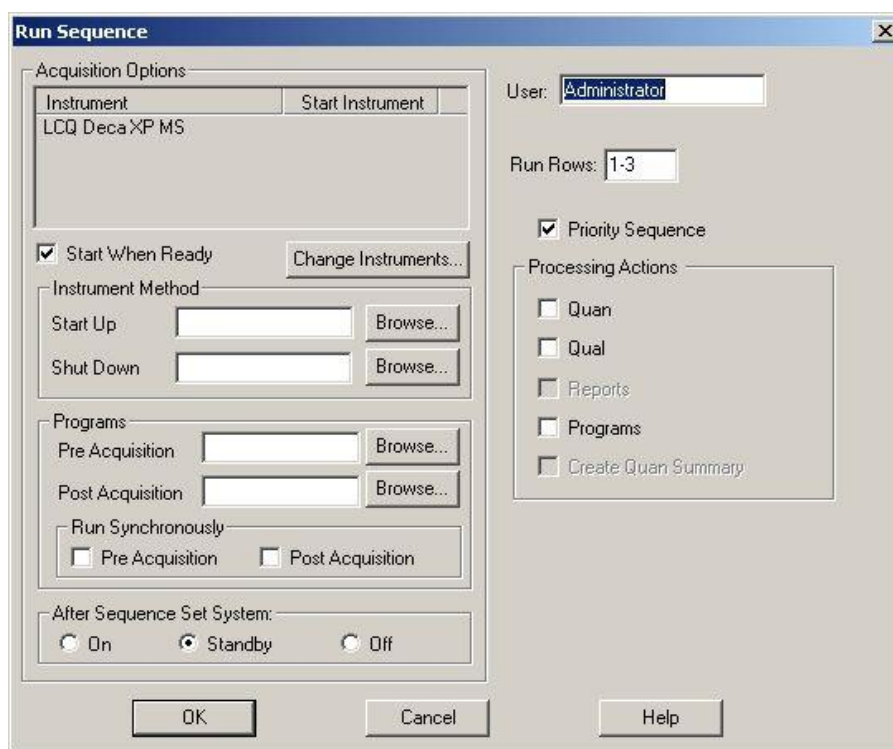

Figure 7.27 Starting the Sequence Run
8. Go to the Actions/Run Sequence menu to open the run sequence dialog window (see Figure 7.27 below).
11. “Change Instruments...” button (see Fig. 7.27); the dialog “Change Instruments In Use” will immediately start.